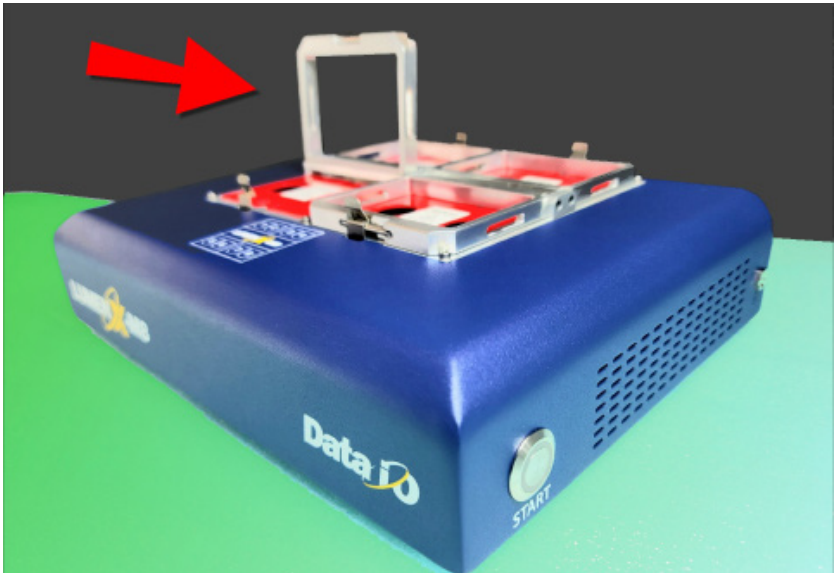
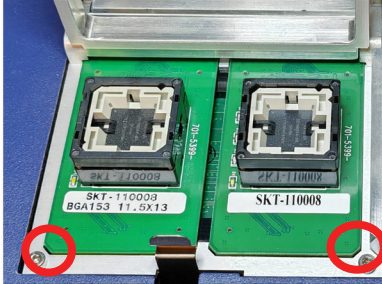

Figure 3: One of four (4) socket clamps open.
Figure 4: Angled adapter corners fit into programmer socket.
- 1-7. Rotate the Socket Adapter so the chamfered (angled) corners match the diagram on the circuit board; refer to Figure 3 & Figure 4. Position all locations in the same orientation.